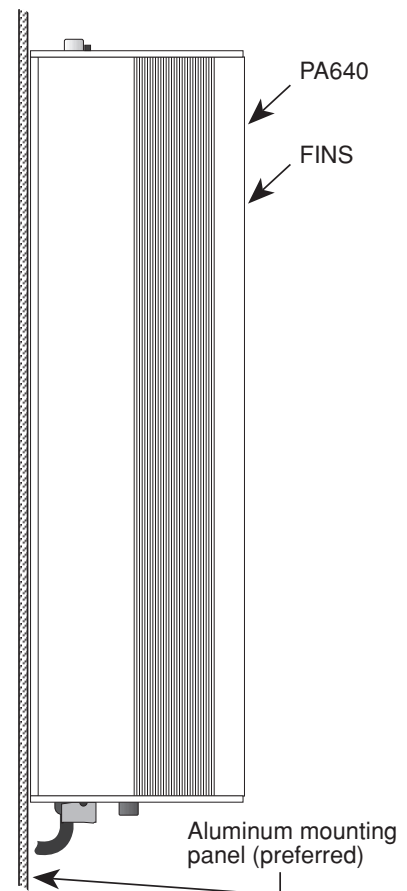

Fig. 5 Vertical mounting (preferred)
5. The PA640 will operate when mounted either horizontally or vertically. The vertical placement is preferred, however, since it will run approximately 5% to 10% cooler when so oriented. See Fig. 5.